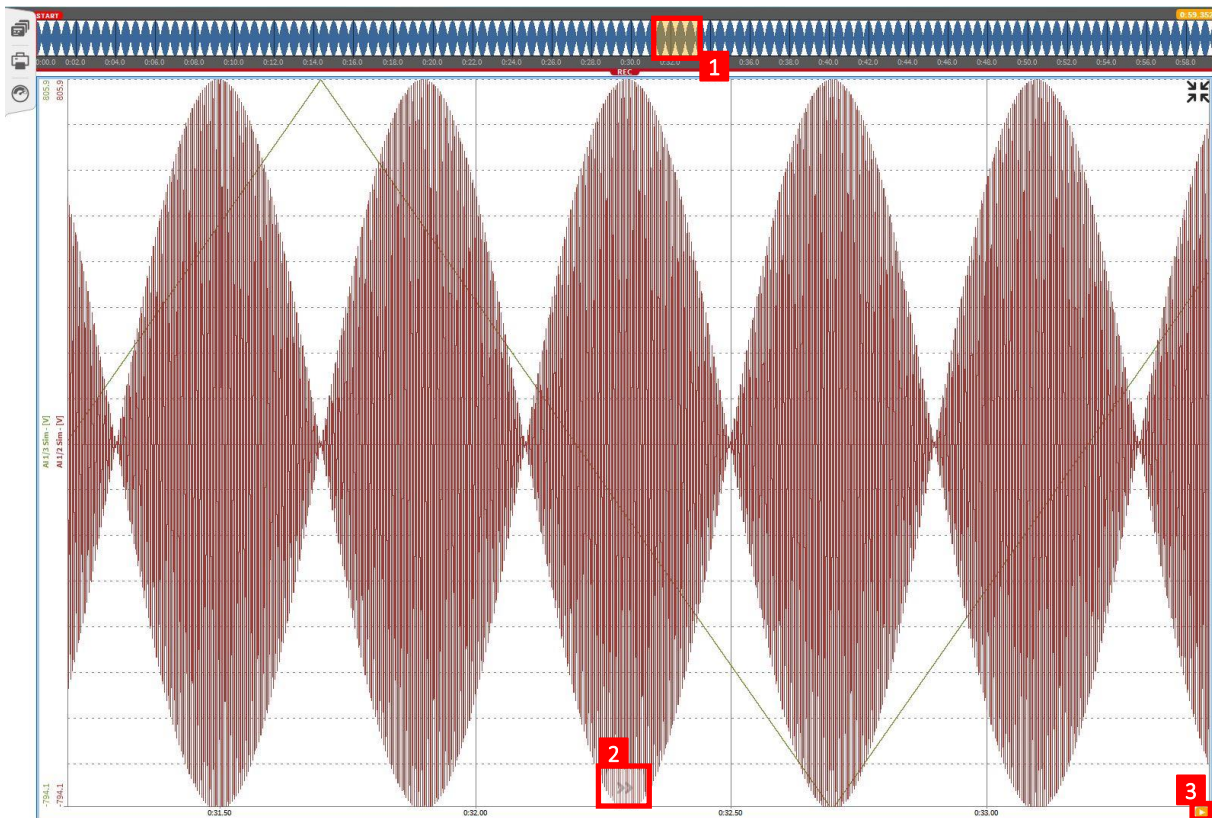

Figure 6-18: Operational Features of Deja View™
While recording data, the user is free to use the Recorder to view data from the past, even during long duration recording. This feature is called Deja View™. For activating this function, the user must click with the left mouse button in the recorder or touch the recorder with his finger and drag or swipe to the right. From this point the user is also free to pinch or scroll zoom into the data. To quickly get back to looking at the current data the user can simply press the grey >> symbol (see ② in Figure 6-18) and
Operational features of Deja View™ (see Figure 6-18)